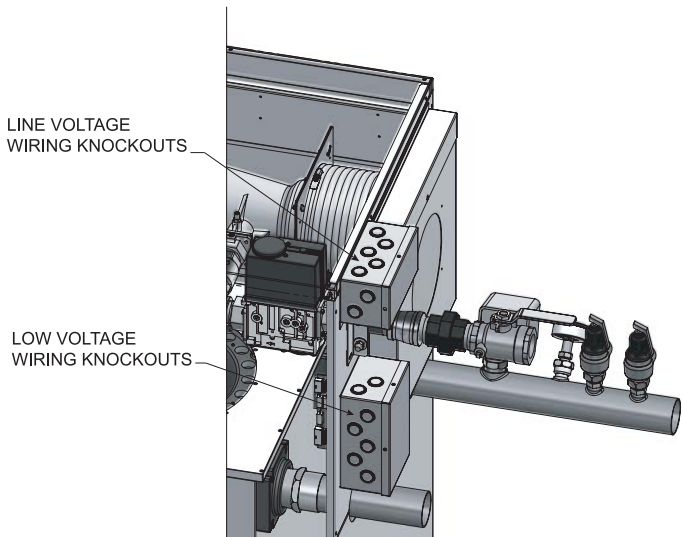

Figure 5-2_Routing Field Wiring
1. Route all low voltage wires through the knockouts in the rear of the heater, as shown in FIG. 5-2.